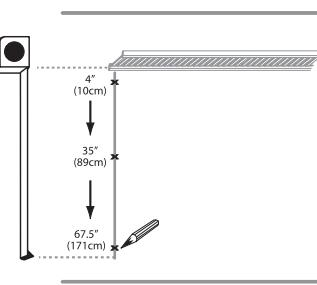

**FIG. 2.1**
3. Measure down 72" and mark location on the wall. (Fig 2.1)